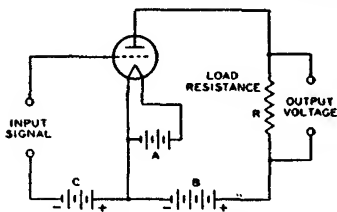

Fig. 15—Triode amplifier circuit.
The plate current flowing through the load resistance (R) of Fig. 15 causes a voltage drop which varies directly with the plate current. The ratio of this voltage variation produced in the load resistance to the input signal voltage is